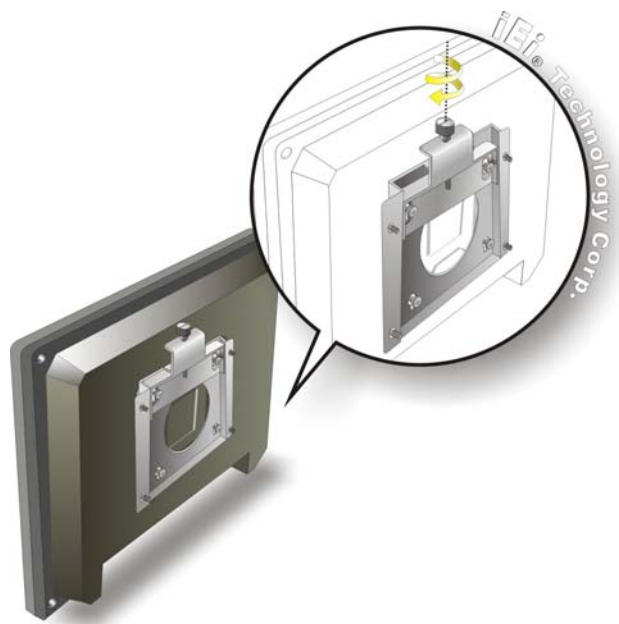

Figure 3-16: Secure the Panel PC
Step 9: Secure the panel PC by fastening the retention screw of the wall-mounting bracket. (Figure 3-16).